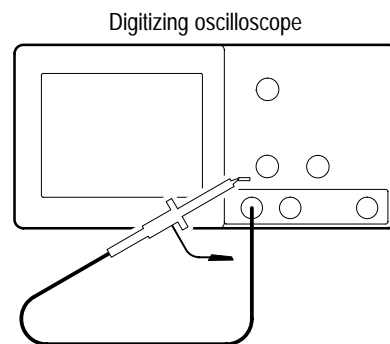

Figure 4-4: Hookup for file system functional test
1. Install the probe on **CH 1**. Connect the probe tip to **PROBE COMP** on the front panel; leave the probe ground unconnected. (See Figure 4-4.)